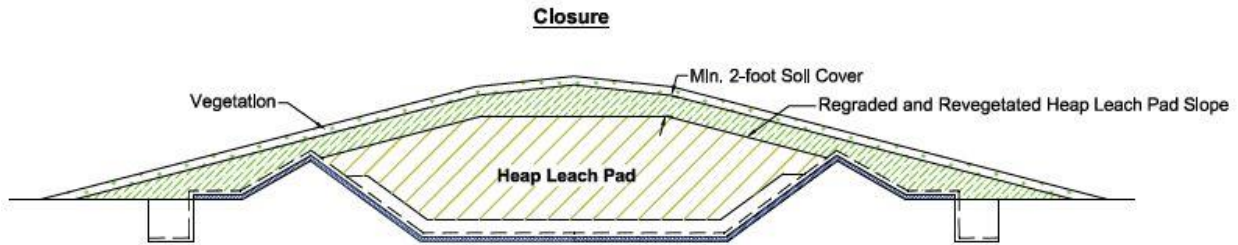

Figure 6: An idealized closed heap leach pad with an engineered cover in place.
Division. Heap leach pads are usually re-sloped, and a 2-4 foot soil cover is usually installed and seeded. The cover causes most of the water that falls as rain or snow to run off the top of the leach pad and not infiltrate. The vegetative cover will also intercept water that seeps down to the root zone, further reducing infiltration to the underlying spent ore. If a leach pad has a leak, the Division may require a geosynthetic liner cap over the spent ore and then a soil cover over that to completely eliminate any infiltration and prevent further leakage. A closed leach pad with a well-designed and established cover may have little or no water reporting to an evaporation cell (E-cell) or an evaporation/transpiration (ET) cell, depending on other site-specific factors, such as the annual precipitation amount and how much of the precipitation falls as snow. See Figure 6.